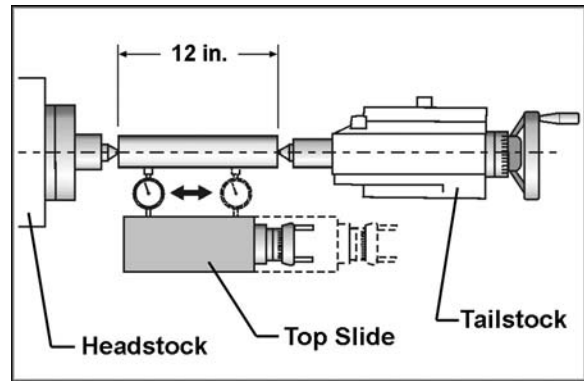

Figure 29 – Tailstock/Headstock alignment
1. Fit a 12" ground steel bar between centers of the headstock and tailstock (Figure 29).